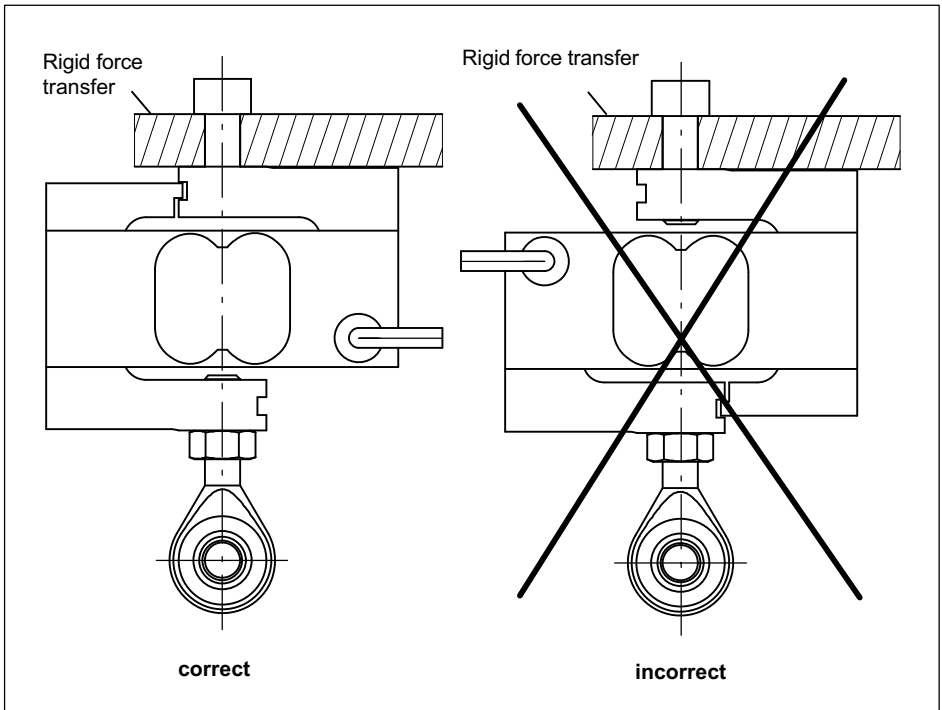

Fig. 6.1 Transducer orientation during installation
*The cable fastening side of the transducer should always be connected directly with the rigid customer-side force transfer areas. Ensure that the cable is laid so that, where possible, no force shunt is caused by the cable (e.g. through the weight or stiffness of the cable), see Fig. 6.1.*